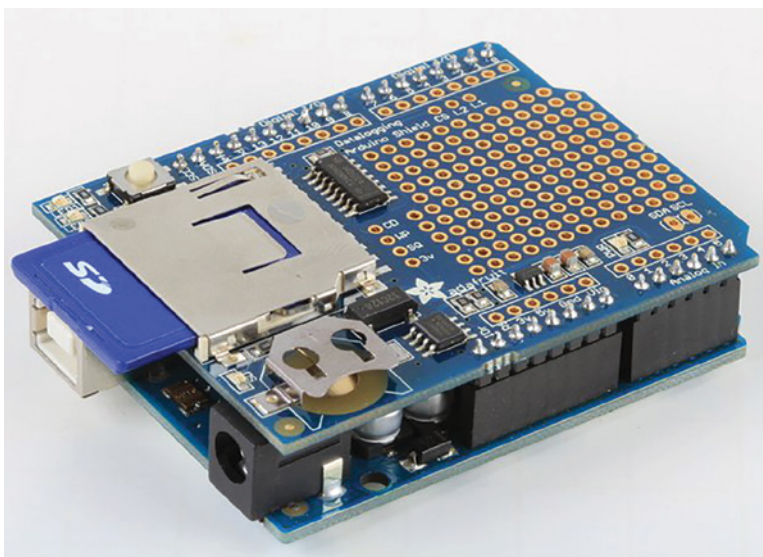

Figure 14-9: Adafruit data logging shield, mounted on an Uno
- **Adafruit data logging shield** (exploringarduino.com/parts/adafruit-data-logging-shield): This shield is particularly well suited to the experiments that you will be doing later in this chapter because it includes both a real-time clock (RTC) chip and an SD card interface. This shield connects the SD card to the default CS pin and connects a real-time clock chip to the I²C bus (see Figure 14-9). This is the shield that will be used for the remainder of this chapter.
Ensure that your SD shield is mounted correctly to your Arduino and that you have an SD card inserted. When mounted, the Adafruit data logging shield should look like Figure 14-9.